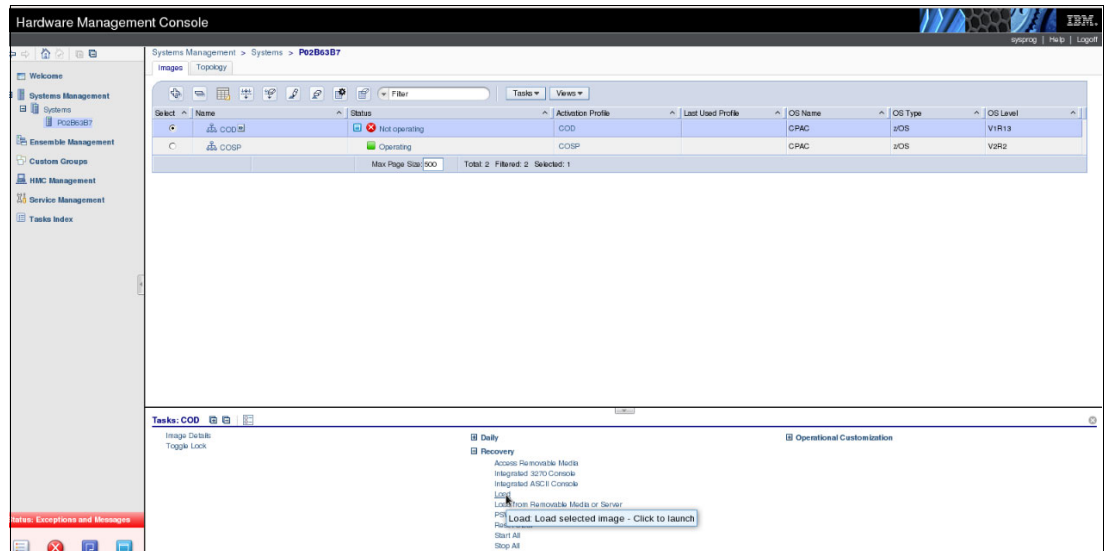

Figure 9-3 Load COD z/OS driving system
3. In the Tasks tab at the bottom of the window, we select **Recovery** → **Load**, as shown in Figure 9-3.